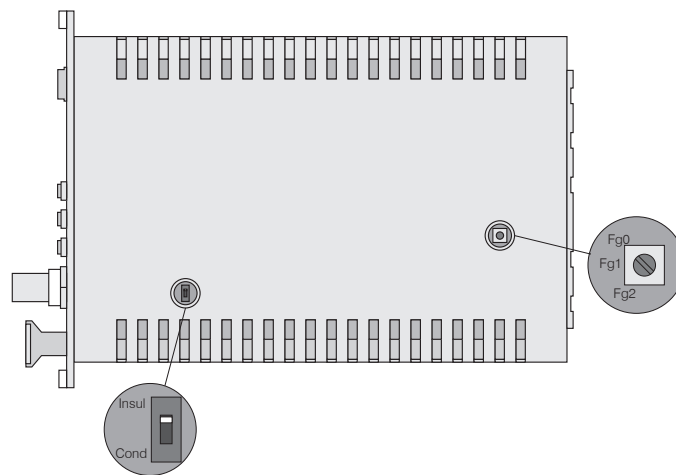

Fig. 26 Switches on board for material selection and limit frequency
Use the slide switch, see Fig. 26, to switch between conducting (Cond.) and non-conducting targets (Insul.). In position Cond. (conductor) only the zero setting with the zero-trimmer is active. The amplifying is set to 0 up to 10 V at the entire measuring range.
The limit frequency of the analog output signal can be set with a rotary switch on the board, see Fig. 26.
- Slide switch on the demodulator in position *Cond.* (Conductor, see Fig. 26)
➡ To do this, move the slide switch on the demodulator board to position *Insul.* (insulating materials, see Fig. 26). Make the necessary linearity adjustment as described, see Chap. 5.4.
- Slide switch on the demodulator in position *Insul.* (Insulation, see Fig. 26)